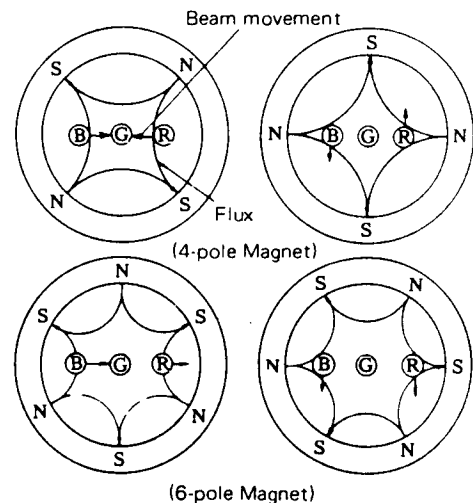

Fig. 10
2. Adjustment of 6-pole magnets affects red and blue beams to move them in the same direction with similar movement; relative angle of two tabs for amount of shift while rotating two 6-pole magnets placed together for rotating shift of beams. (Fig. 10)